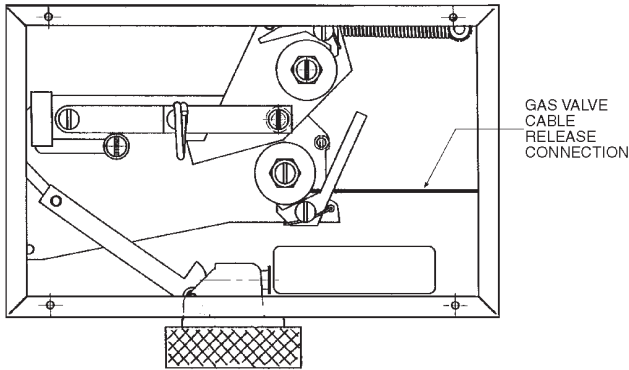

Figure 4-19. Gas Valve Line Termination.
The gas valve line can now be put into a set position by applying tension to the gas valve line. This is accomplished by using a 1/2 in. hex wrench on the gas valve ratchet wheel. The ratchet wheel will be ratcheted in a clockwise direction until the gas valve is fully open. See Instruction Sheet, Part No. 550571, included in gas valve shipping assembly, for detailed information. Secure the gas valve cover plate to the gas valve box with the four (4) screws provided. The gas valve line is now in a set position. See **Figure 4-19**.